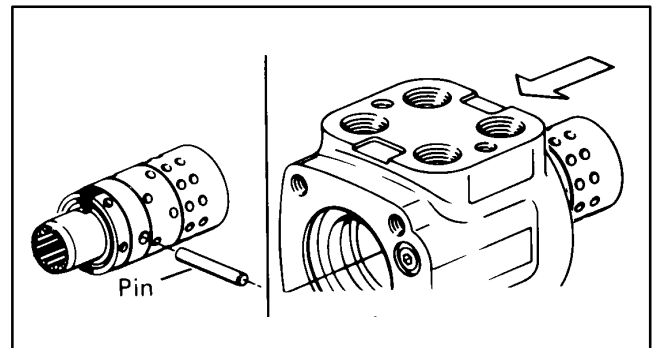

Figure 39
10. Position the spool and sleeve assembly so that the splined end of the spool enters the 14-hole end of housing first, see Fig. 39.